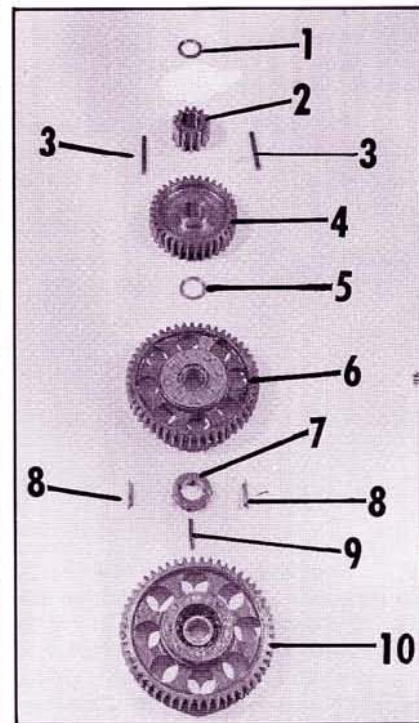

Fig. 18
19. Fig. 18, illustrates the individual parts of the center gear train that were just removed.